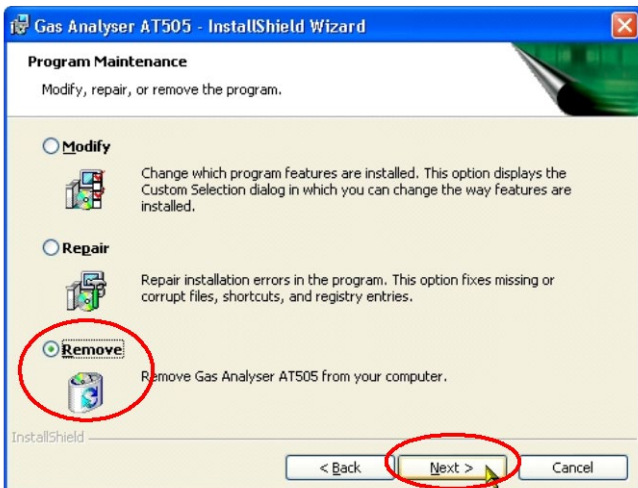
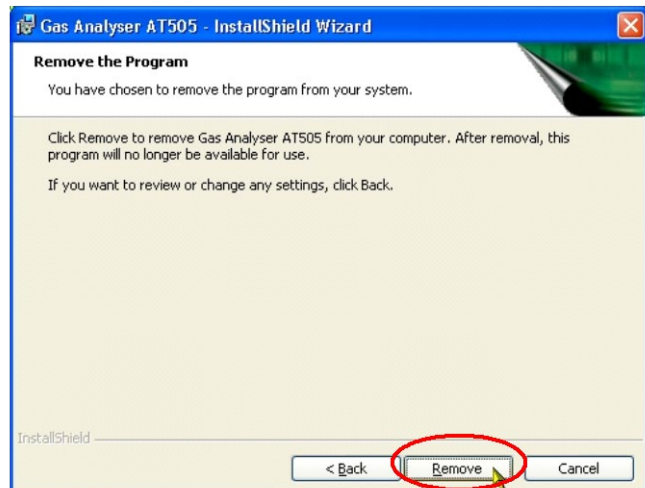

Fig. 11 – After you have clicked on "Remove" and confirmed your choice, the removal of the program will start
Fig. 12 – To proceed with the removal confirm that you really wish to remove the program
b) Click on the menu item **Gas Analyser – Installation –** see Fig. 5 (Autorun.exe on the installation CD must be launched). Then select **"Remove"** (Fig. 11). Confirm your choice in the displayed dialog box (Fig. 12) and the Installation Wizard (Fig. 13) will **immediately remove the program**.